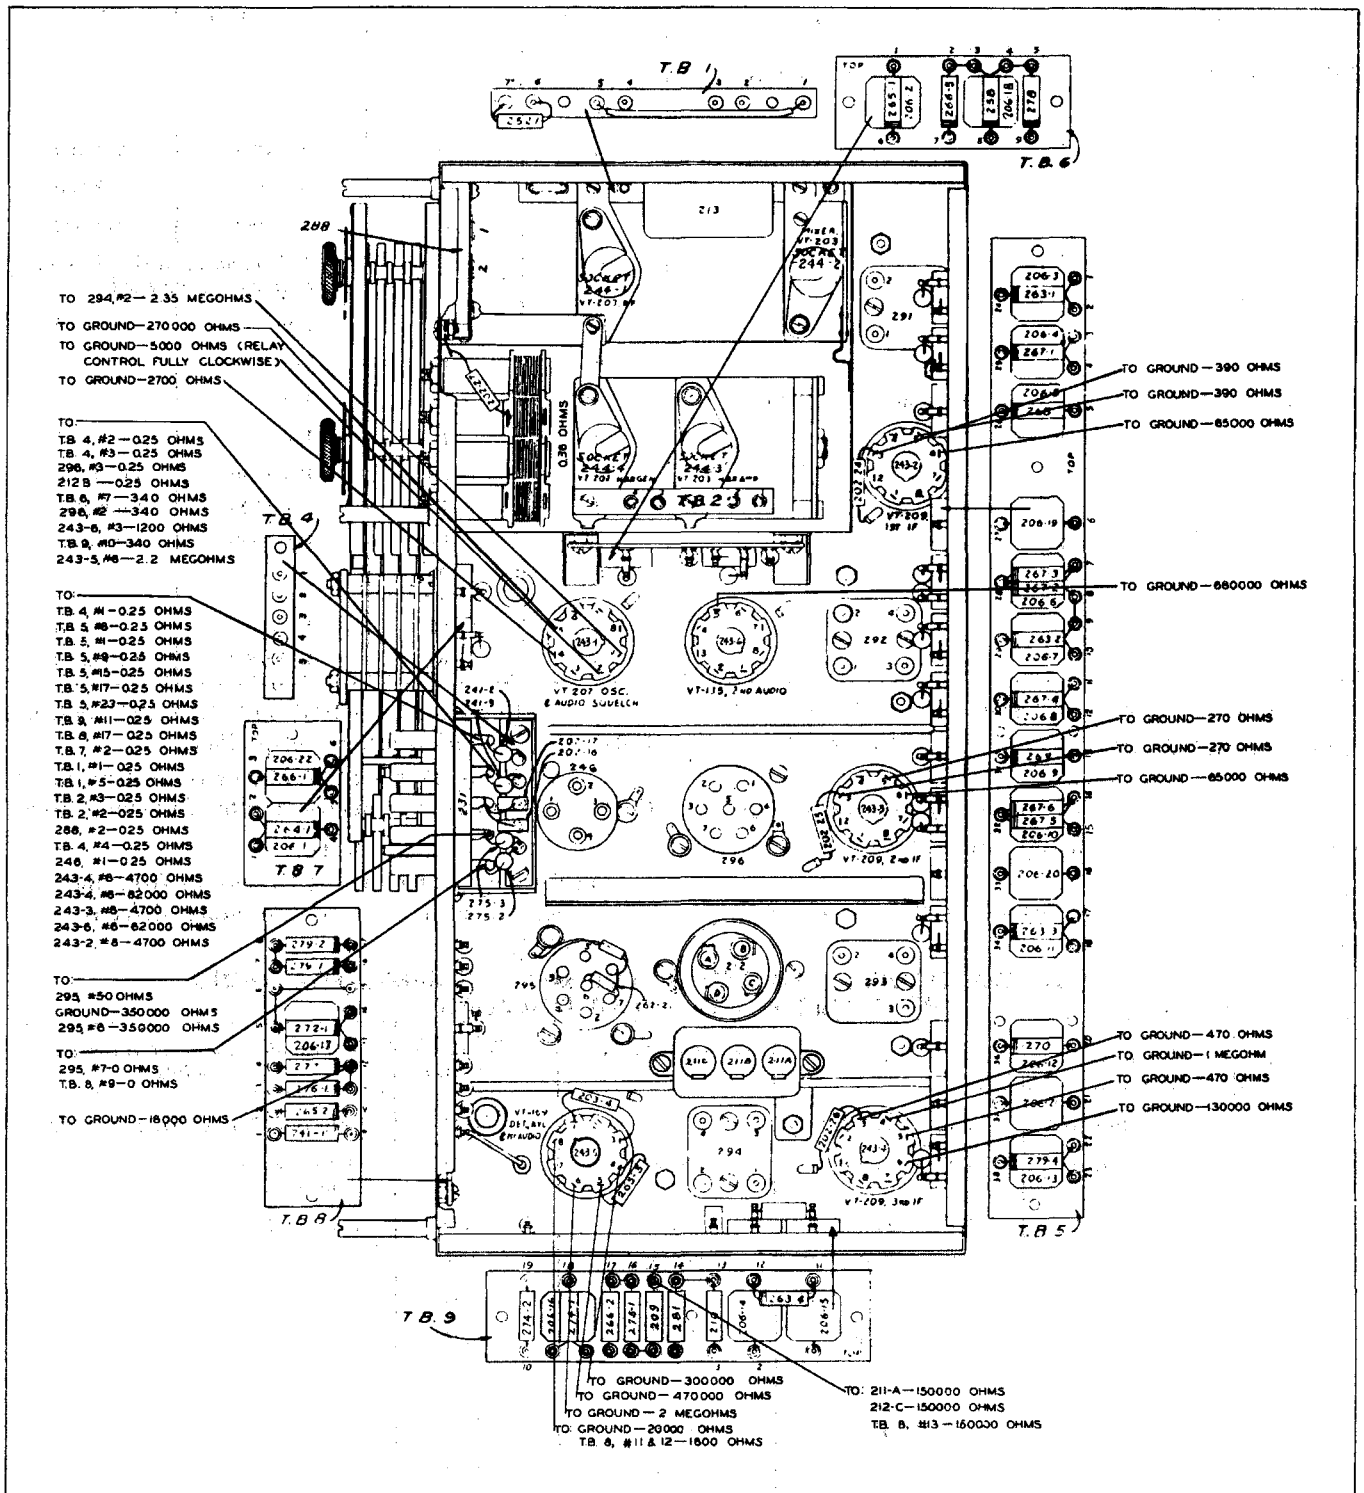

Figure 5-7. Radio Receiver BC-624-A—Continuity and Resistance Chart
(7) RECEIVER CONTINUITY AND RESISTANCE MEASUREMENTS. (See figs. 5-7 and 5-8.)